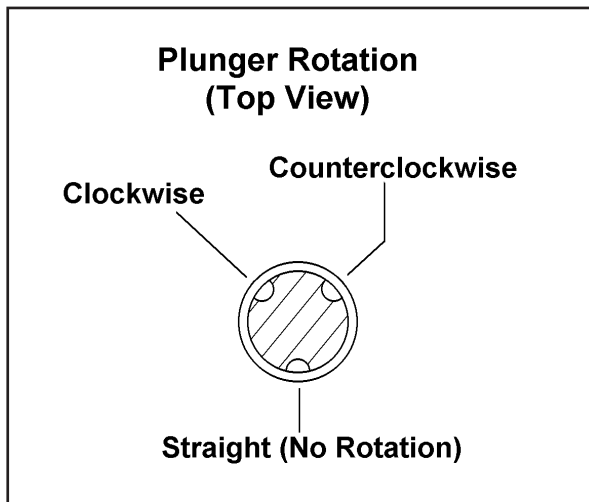

Figure 3
3. Turn plunger until the desired groove (counterclockwise or clockwise rotation, or straight pull) is lined up with the bearing plug opening. See Figure 3.